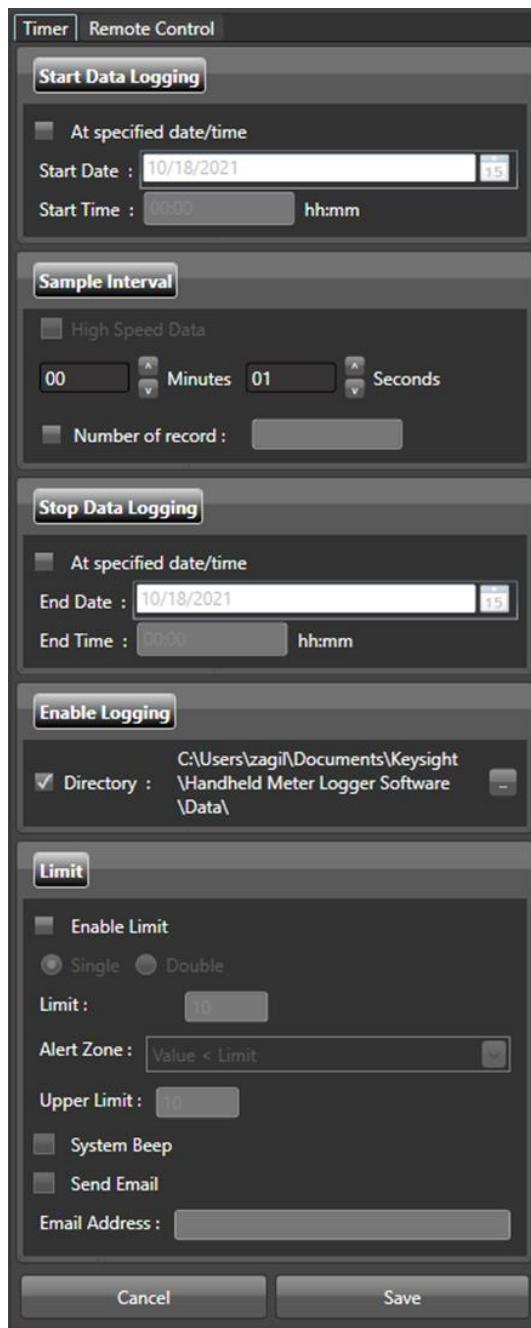

Figure 4: DMM Timer/Logging Settings
a. Verify all DMM “Timer” settings match Figure 4 below. Select the “Save” button.